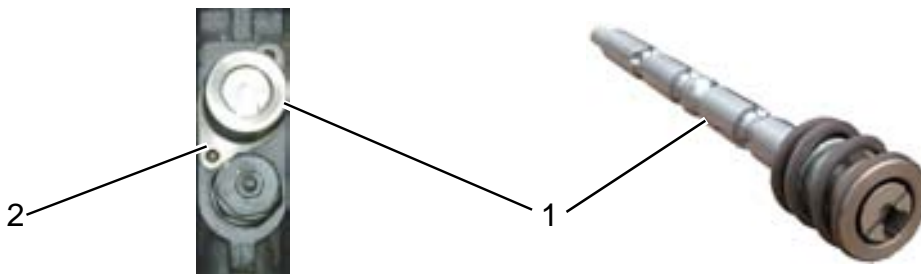

Figure 12
- Pull the spool assembly (**Figure 12, 1**) up and out of valve section body. Lift the retainer plate (**Figure 12, 2**) under the centering spring assembly when removing the spool assembly.